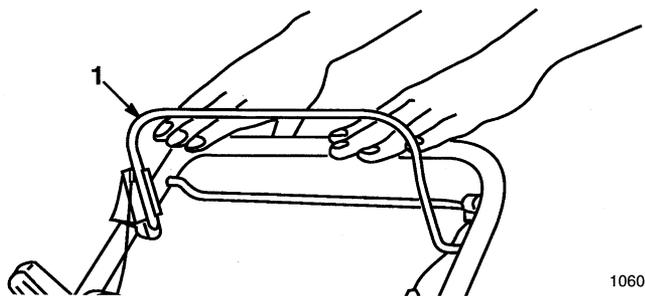

Figure 14
2. Release blade control bail (Fig. 14). Both the engine and blade will stop. See your dealer immediately if they do not.